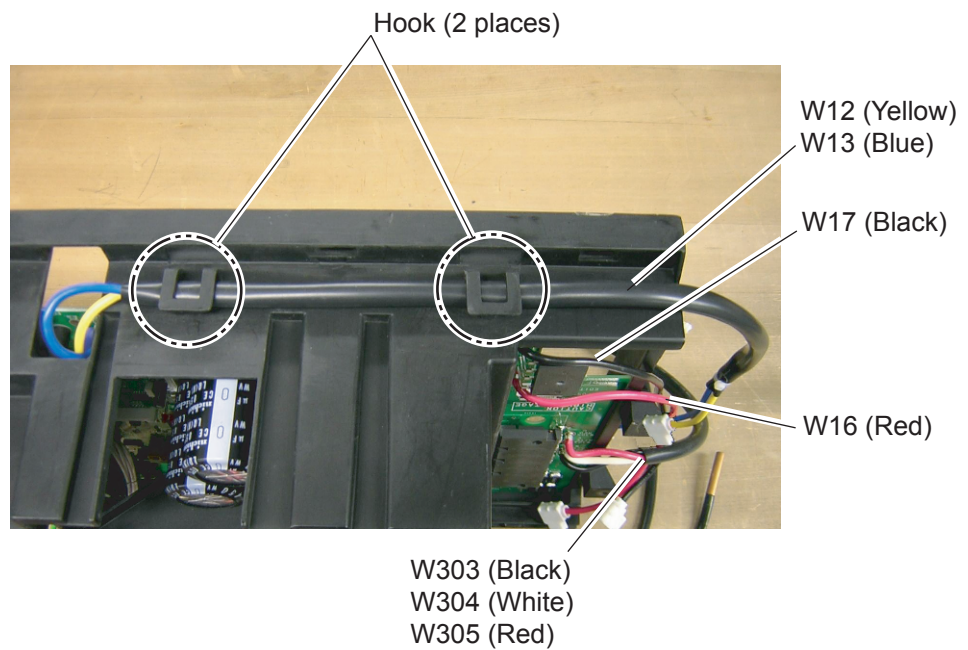

Fig. 5
- As shown in Fig.5, pull out the wires and fix them.